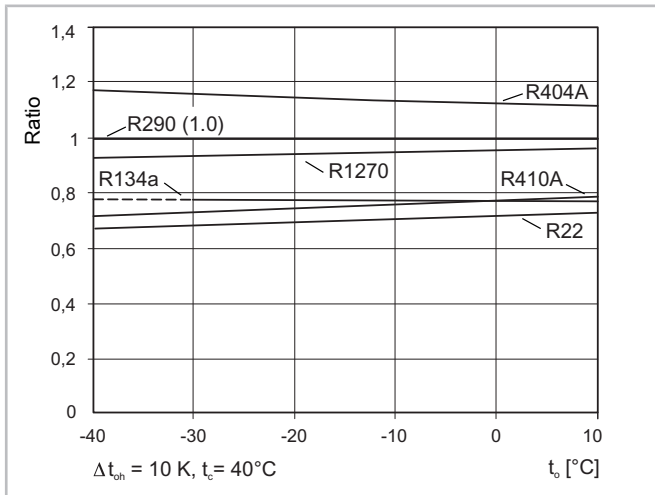

Fig. 6: Liquid volume flow of various refrigerants compared with R290 at identical refrigerating capacities
- Identical dimensions of the liquid line such as for R22 (higher liquid volume flow, but lower pressure drop due to lower density), see figure 6, page 7.